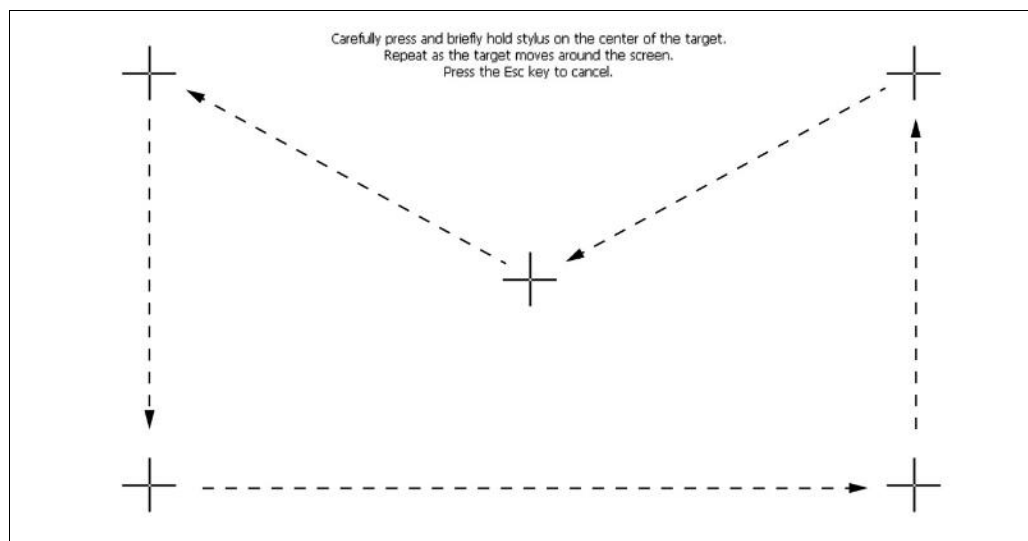

Fig. 35 Calibrate touchscreen
- ▶ The calibration screen (Fig. 35) opens.